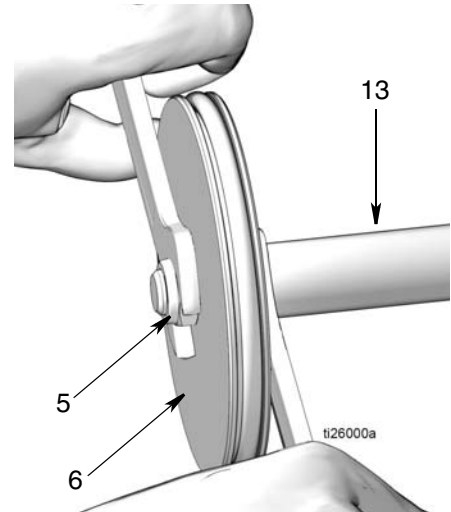

FIG. 22
16. Piston Rod (13) and Piston (6)
- a. Pull piston rod (13) and piston (6) out of air cylinder (2) (FIG. 22).
- b. To separate piston rod (13) and piston (6) use two wrenches, working in opposite directions. Secure one open end wrench to flats of piston rod and the second wrench is used to loosen the nut (5) as shown in FIG. 22.